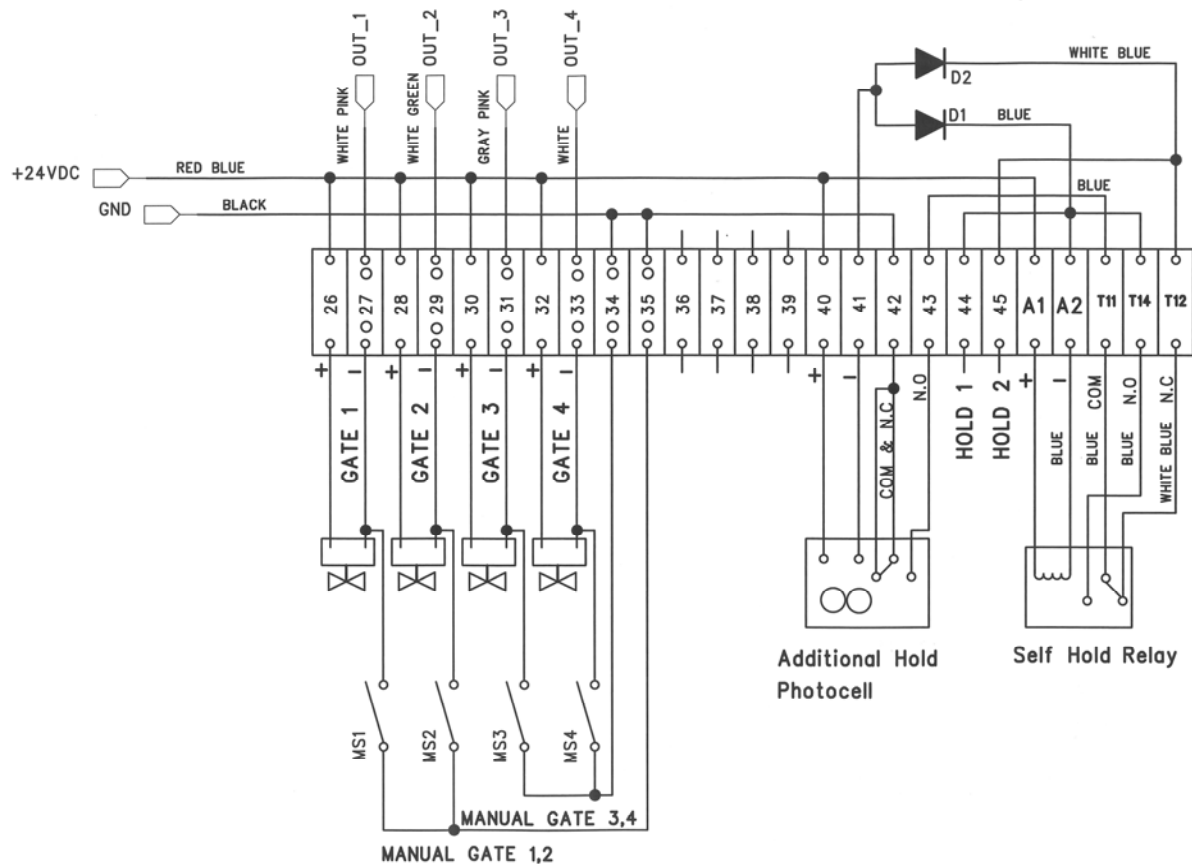

Figure 23: Wiring Diagram of Additional Photocell for AfiSort and Combined AfiWeigh/AfiSort Station
- ❑ The recommended solution is to make use of the Additional Self Hold Relay and (3rd) Photocell, shown in Figure 23, so that the gate remains open as long as the cow is detected by the additional (3rd) photocell.
The wiring of the additional photocell for a combined AfiWeigh/AfiSort station is according to the diagram given in Figure 23 and the wiring diagram in Figure 22.